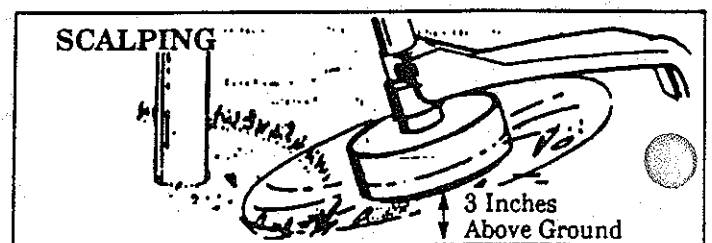

Figure 13
2. **SCALPING** - FIGURE 13. The scalping technique removes unwanted vegetation. Hold the bottom of the trimmer head about 3 inches above the ground and at an angle. Allow the tip of the line to strike the ground around trees, posts, monuments, etc. This technique increases line wear.